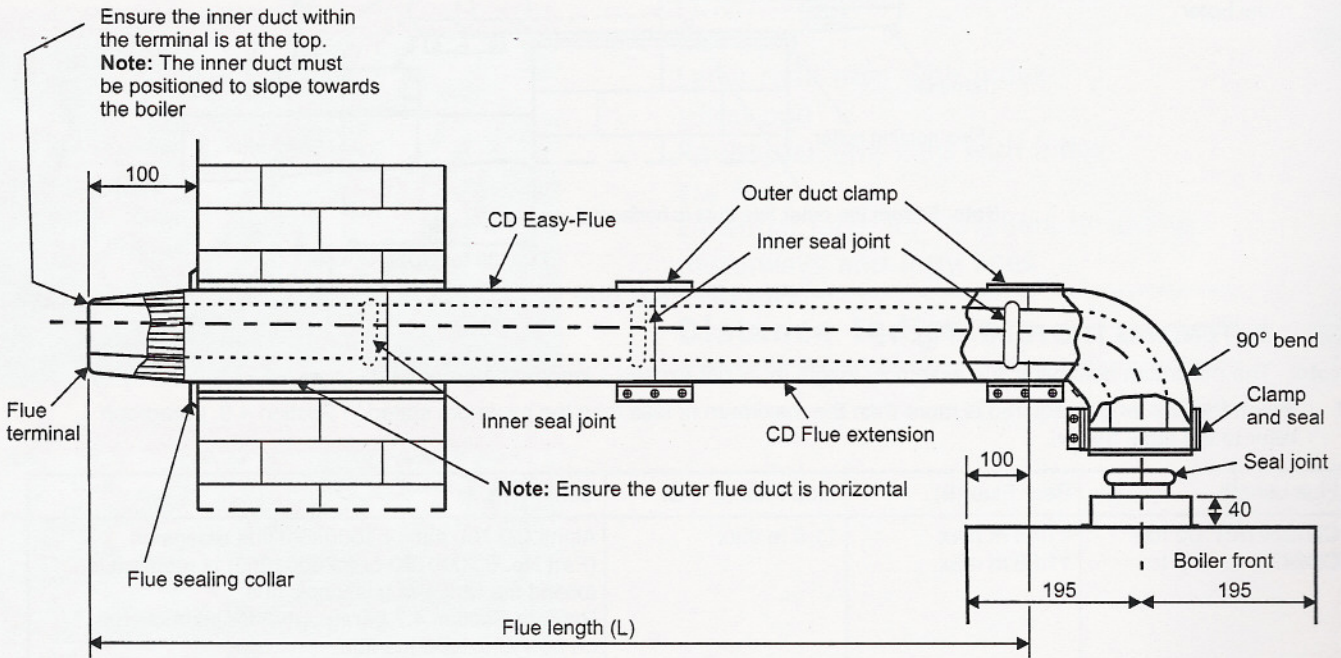

Fig. 19 - Side flue
#### 4.7 EXTENDING THE FLUE - Fig. 19
- Note:** Check the flue terminal protrudes 100 mm out of the wall and that the inner duct of the terminal is positioned correctly, i.e. the inner duct within the terminal is at the top. See Fig. 19.